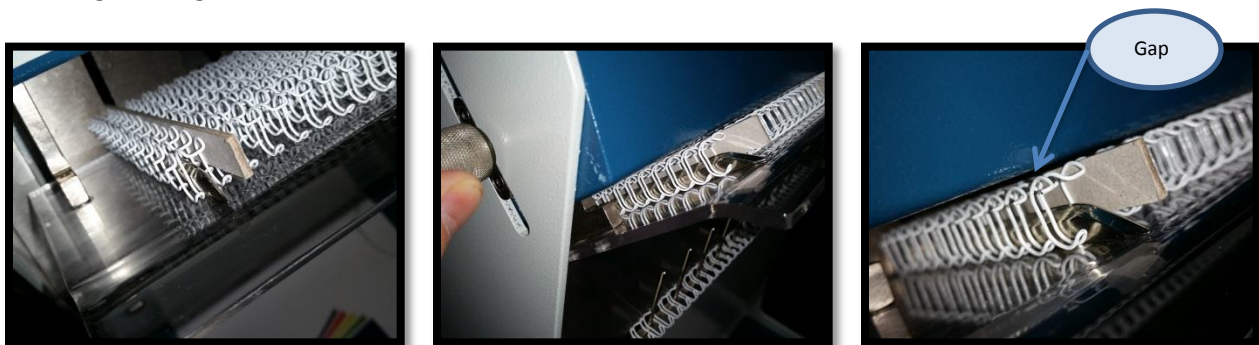

Figure 7
- b. **Wire-O Gap Adjustment:** Pull both handles out away from machine and move the blue wire holder down until it just touches the loaded wire. Leave about 1/16" to 1/8" gap between the wire and blue guide. Figure 7